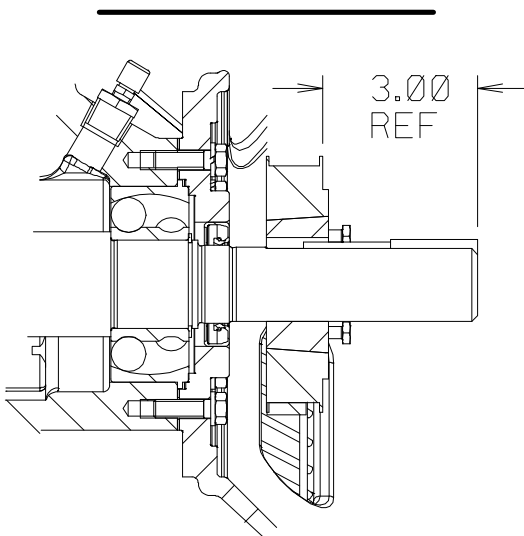

Figure 12. Drive Sprocket Positioning
Install the key (23A, Figure 4) in the shaft keyway, making sure to leave room in the keyway for the drive key (23, Figure 4). Install the bushing (25) and sprocket (24) on the shaft to the dimension shown in Figure 12.